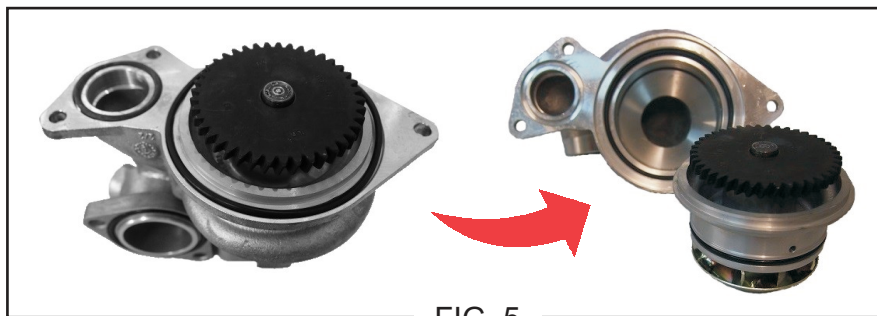

FIG. 5
- ⑤ Remove water pump cover. The water pump is fitted in water pump cover [FIG. 5].